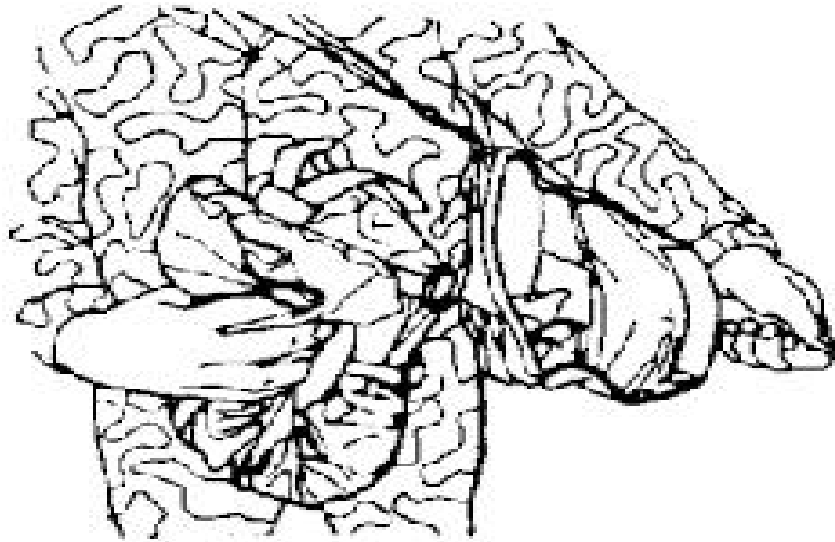

Figure E-70. Put mask in carrier.
g. Put the mask with hood in the carrier while holding the facepiece upright with the lenses facing away from your body (figure E-70).